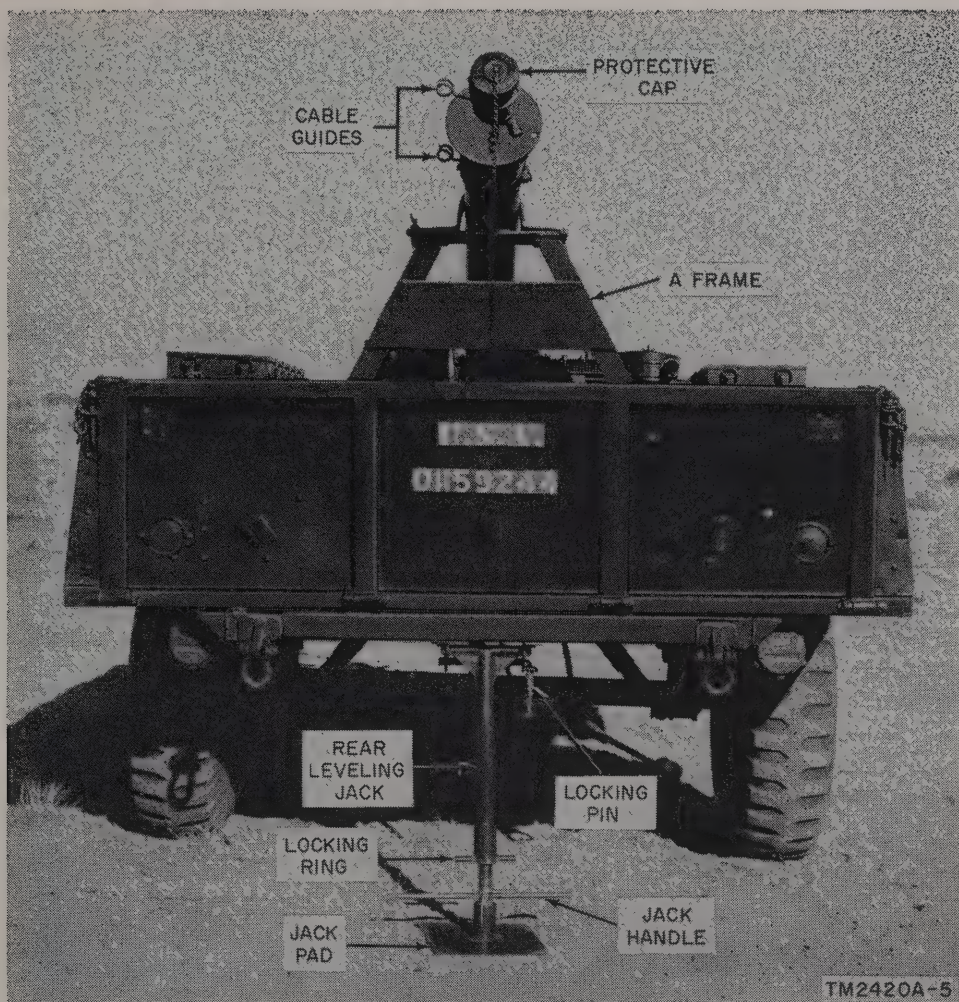
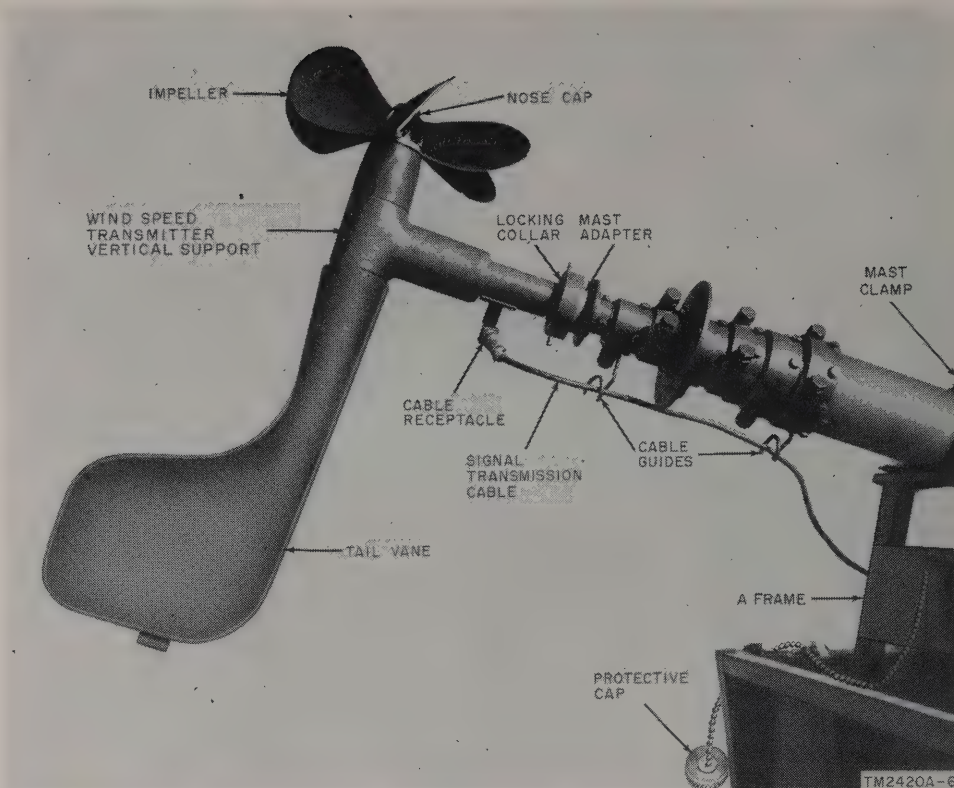
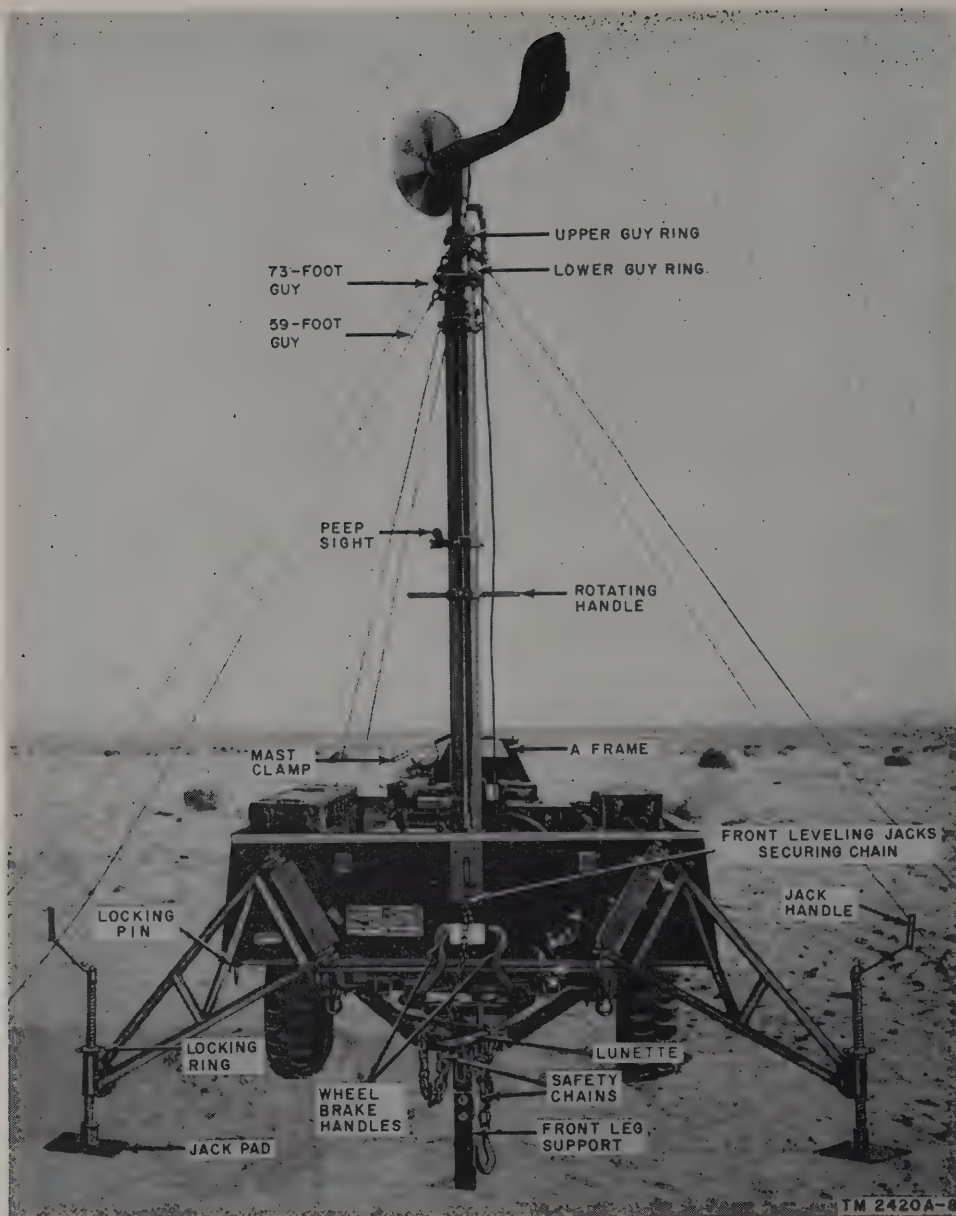
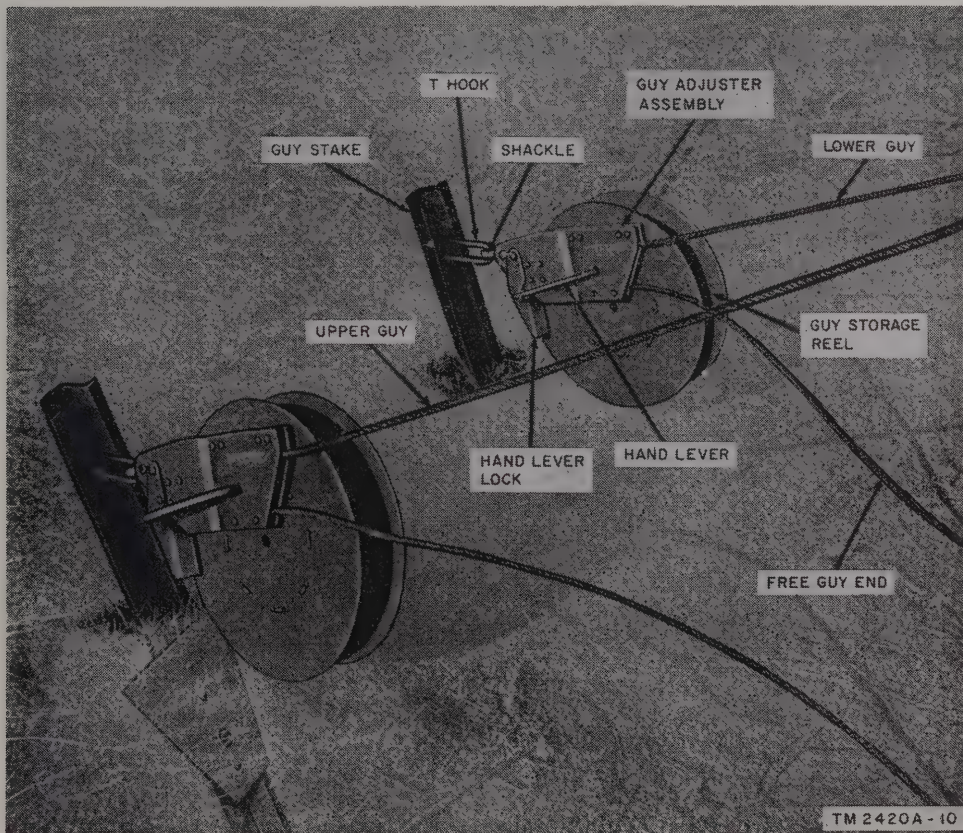

Figure 5. Rear leveling jack.
Figure 6. Wind Speed Transmitter T-610/MMQ-1, mounted on mast.
Figure 8. Wind Measuring Set AN/MMQ-1A, mast raised but not extended.
Figure 9. Guy adjuster assemblies on stakes.
predetermined location will mark the location of the trailer (par. 17). The stakes will have been designated as trailer stake and aiming stake. Center the trailer over the trailer stake (fig. 9) facing the aiming stake. Position the trailer so that the mast is over the trailer stake, within a 12-inch radius.
a. General (fig. 8).
- (1) Lower the front support leg and lock it in the lowered position.
- (2) Disconnect the trailer lighting cable from the towing vehicle.
- (3) Disconnect the lunette of the drawbar from the pintle hook of the towing vehicle and disengage the safety chains.
- (4) Secure the parking brakes by operating both wheel brake handles.
- (5) Remove the canvas cover from the trailer.
b. Rear Leveling Jack (fig. 5).
- (1) Remove a jack pad from the retaining bracket on the inner wall of the trailer.
- (2) Unfasten and lower the rear leveling jack from the transporting position.
- (3) Lock the rear leveling jack in the lowered position by inserting the locking pin through the three holes.
- (4) Place the jack pad beneath the rear leveling jack.
- (5) Turn the jack handle clockwise until the ball of the leveling jack is seated in the socket of the jack pad.
c. Front Leveling Jacks (fig. 8).
- (1) Remove the two remaining jack pads from the retaining brackets on the inner wall of the trailer.
- (2) Unhook the front leveling jacks securing chain.
- (3) Pull out the two locking pins that secure the front leveling jacks (one located in each lower corner on the front of the trailer).
- (4) Lower the front leveling jacks and lock them in position by replacing the locking pins.
- (5) Place one jack pad beneath each front leveling jack.
- (6) Remove the two jack handles from the tool box and place one on each front leveling jack.
- (7) Lower each jack by turning the jack handle clockwise until the ball of the jack is seated in the socket of the jack pad.
14. Installing Wind Speed Transmitter T-610/MMQ-1A (fig. 6)
Two men are required to lift the mast to the upright position (*e* below). When raising the mast, use the mast rotating handle (fig. 8) and grasp the body of the mast. *Do not use the peep sight as a handle.* Do not release the mast when it is raised until the mast base plate has been secured (*f* below).
e. Secure the trailer in its leveled position with the locking rings on the leveling jacks (fig. 8).
b. Grasp the rotating handle (fig. 8), look through the peep sight, and rotate the mast assembly until the vertical cross hair in the peep sight is directly in line with the aiming stake.
a. Installing Stakes (figs. 9 and 10).
(1) Remove the six guy stakes, six T-
- (6) To relocate a stake, loosen it by hitting the sides with the sledge hammer. Remove the stake with an upward pull.
b. Attaching Guys to Mast. Two men are required to attach the guys to the guy rings on the mast (fig. 8). One man should stand on the rotating handle and hook the guys on the guy rings; the other man should hand up the hook ends of the guys.
- (1) Remove the six guy adjuster assemblies (fig. 9) from the guying equipment case.